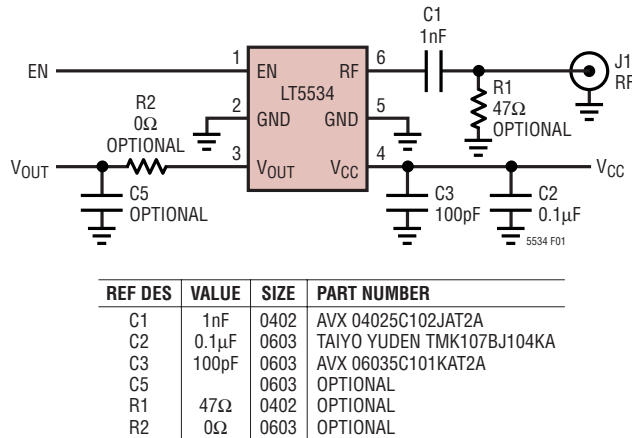

Figure 1. Evaluation Circuit Schematic
$V_{CC} = 3V$ ,  $EN = 3V$ ,  $T_A = 25^{\circ}C$ , source impedance =  $50\Omega$ , unless otherwise noted. Test circuit shown in Figure 1. (Note 2)
Test circuit shown in Figure 1. (Note 2)
## TYPICAL PERFORMANCE CHARACTERISTICS (Test circuit shown in Figure 1)
**TYPICAL PERFORMANCE CHARACTERISTICS** (Test circuit shown in Figure 1)
When the output is terminated with a load capacitance  $C_L$ , the slew rate is then limited to  $200\mu\text{A}/(C_L + 1.5\text{pF})$ . For example, the slew rate is reduced to  $17.4\text{V}/\mu\text{s}$  when  $C_L = 10\text{pF}$ . A capacitive load may result in output voltage overshoot, which can be minimized with a series compensation resistor R2 as shown in Figure 1. The suggested resistor values for various capacitive loads are listed in Table 2.